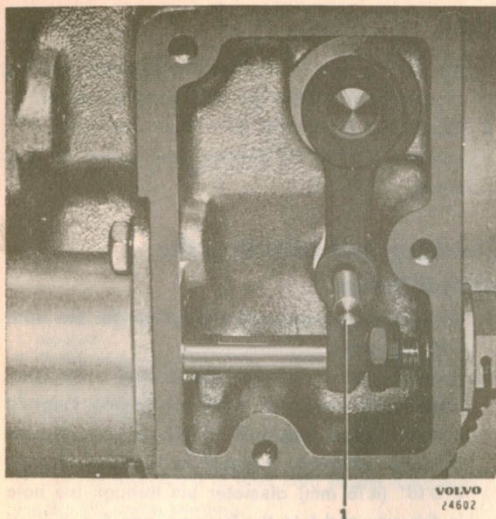

Fig. 3-42. Adjusting the control valve
2. Remove the cover over the control valve arm. Engage the overdrive (with the engine stopped and 4th speed engaged). If the control valve is correctly adjusted, it should be possible to push a 3/16" (4.75 mm) diameter pin through the hole in the arm and into the housing, see Fig. 3-42. If not, adjust until the correct position of the arm is obtained.